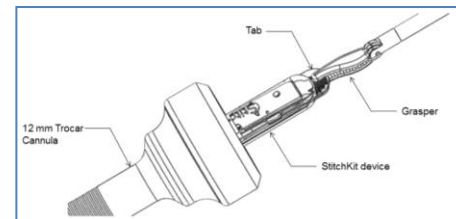

Figure 3 - Inserting the StitchKit® device using tab at end
- 4.2. Insert device through the trocar (Figure 3) and transfer it to the surgeon-controlled robotic graspers. Use caution while passing the device via the port to ensure appropriate placement of the device and avoid contact with adjacent organs. Take care to ensure that the canister does not get opened accidentally and that none of the contents spill out.